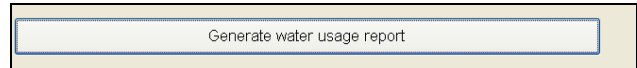

Figure 27.0.10
- Click on the **Generate water usage report** button (Figure 27.0.10).